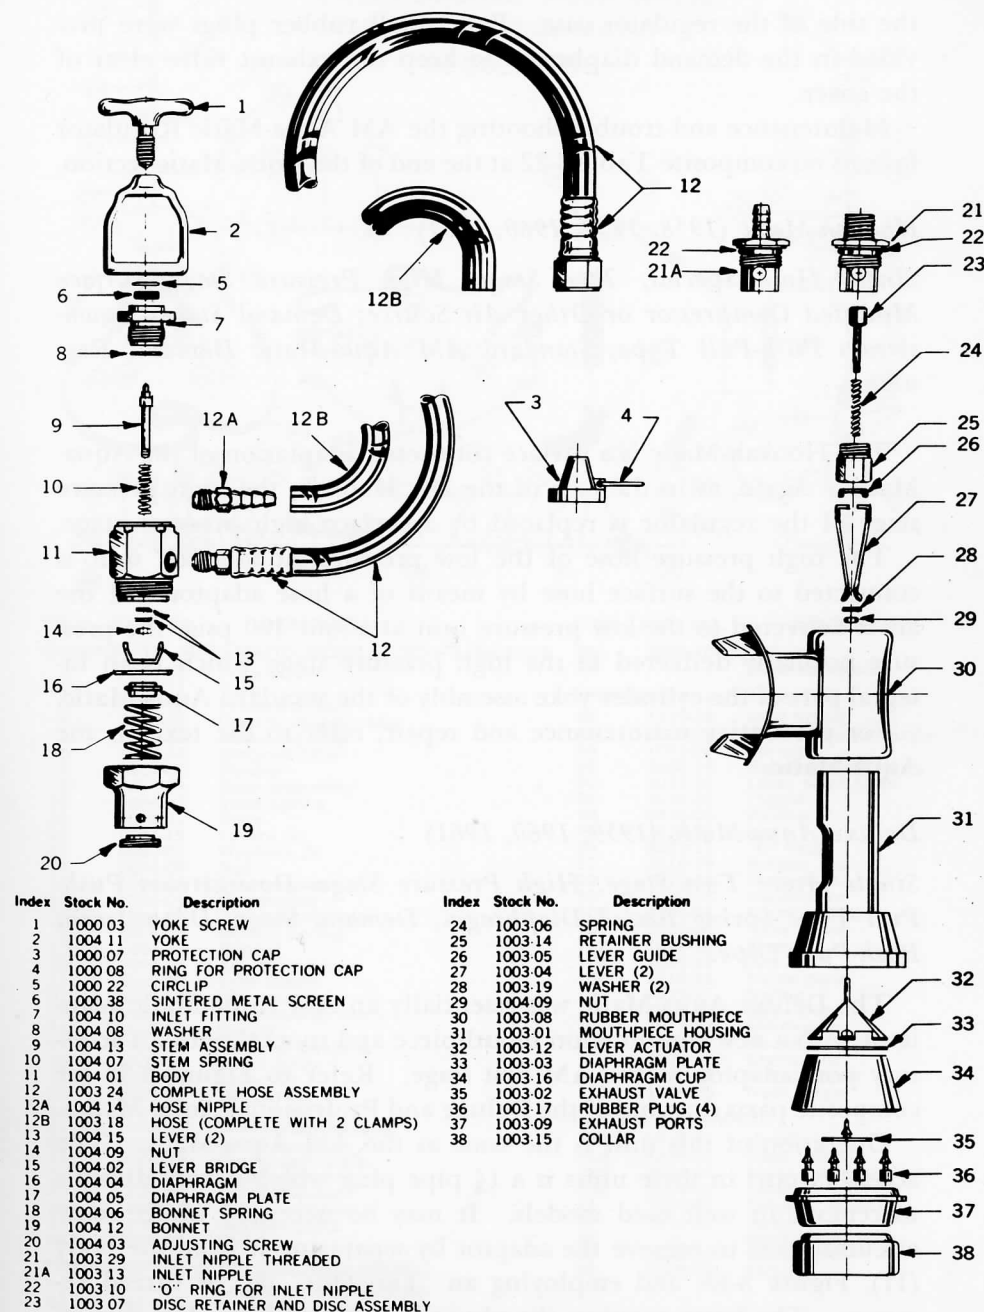

Figure 3-32. Exploded view of AM Aqua-Matic regulator and parts list. Courtesy U.S. Divers Company
The AM Aqua-Matic was the first single hose unit marketed by U.S. Divers. The basic standard model (AM) later evolved into the Deluxe version (similar, but with a built-in snorkel) and the Professional Aqua-Matic which had the AM first stage and a preliminary type Calypso demand stage.¹ The operation of all first stages were alike. Refer to Figure 3-32.
Figure 3-33. Exploded view and parts list Professional Aqua-Matic and Deluxe Aqua-Matic regulators. Item numbers keyed to Figure 3-32. (A) Demand stage Professional Aqua-Matic. (B) Demand stage Deluxe Aqua-Matic. Composite by author, no part sheets available from manufacturer at this printing.